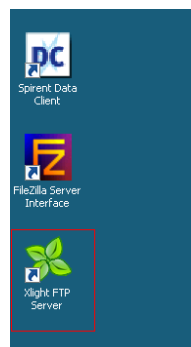

Figure 2-22: Xlight IPv6 FTP Icon
1. Double click the **Xlight FTP Server** icon from the desktop as shown in Figure 2-22.